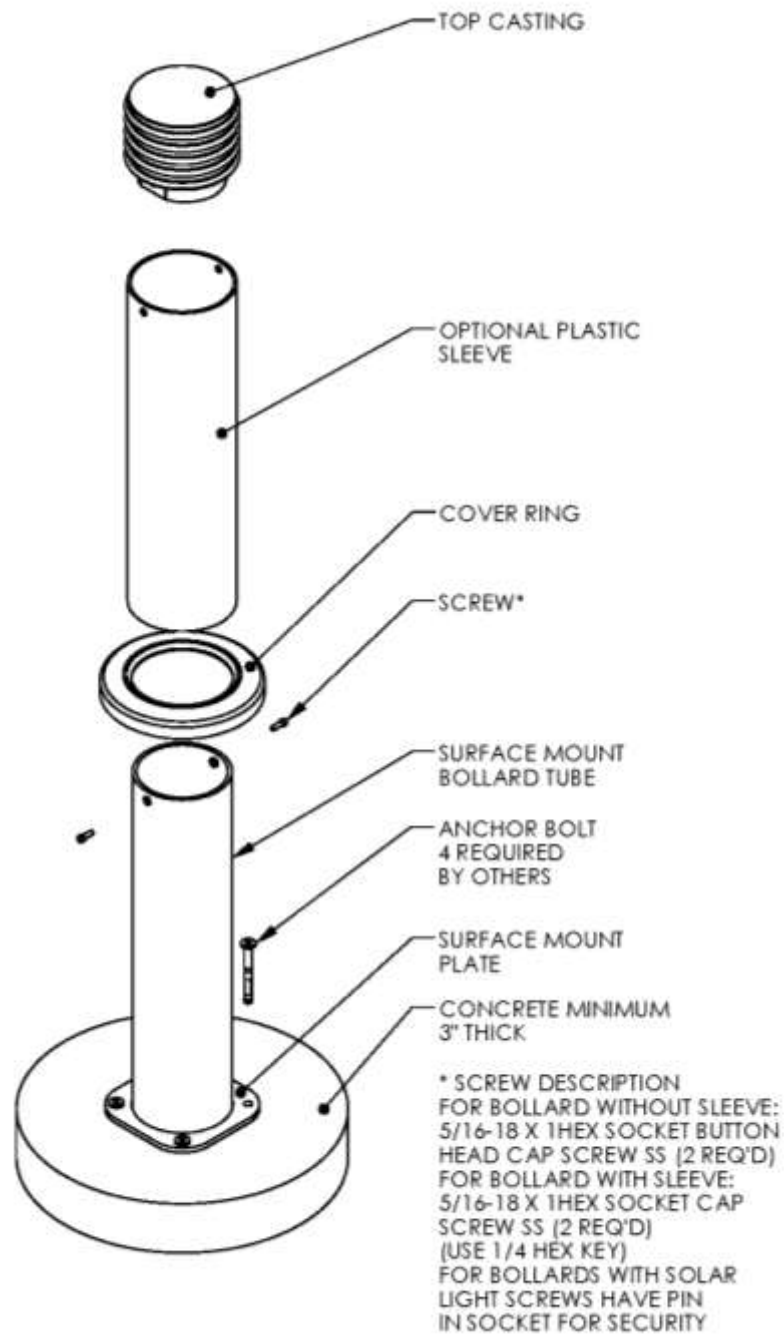

Figure 1.
1. Remove top retaining screws, top casting, optional plastic sleeve, and cover ring from bollard to be mounted (see Figure 1).